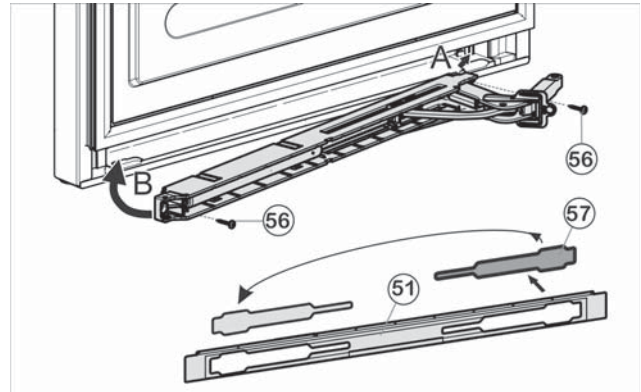

Fig. 23
- Loosen cover Fig. 23 (57) from the panel Fig. 23 (51) and insert on the other side.
- With the hinge of the soft stop unit facing the door hinge side, engage the soft stop unit (A) and swivel inwards (B).
- Tighten soft stop unit (2 x Torx 15) Fig. 23 (56).